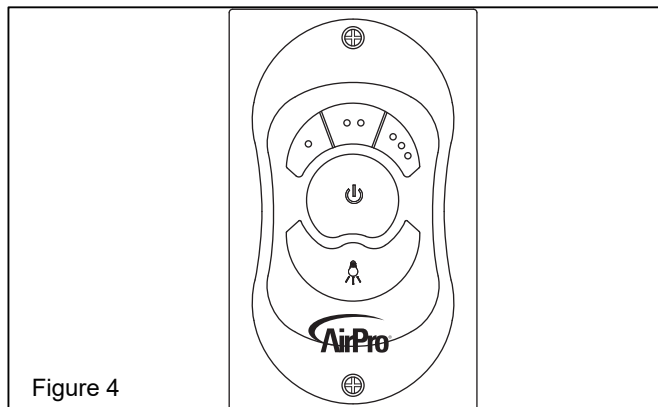

Figure 4
3. OPERATING TRANSMITTER: (Figure 4)